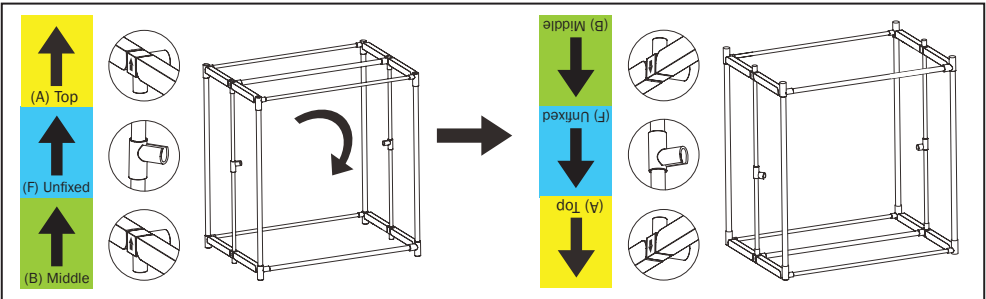

Fig. 4
5. Once you have secured the top module, turn the frame upside down so that you can see the base of the middle module facing upwards and the arrows pointing down (Fig. 4).